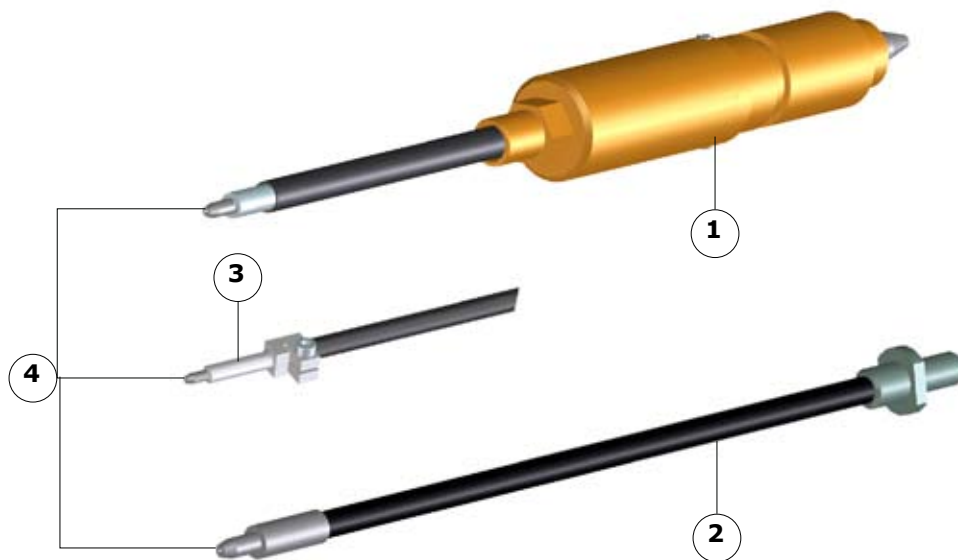

Fig.5.9 - Wire sheaths and small nozzles
- Standard wire sheath for exterior feeder (Fig.5.9 - 1)
- Wire sheath for built-in feeder (Fig.5.9 - 2)
Standard wire sheath (Fig.5.9 - 1)
Wire sheath for built-in feeder (Fig.5.9 - 2)
- Unscrew the nozzle from the wire sheath (Fig.5.9 - 4)
For large tube diameters, and depending on the stiffness of the wire, it is possible to install a nozzle extension (Fig.5.9 - 3) between the nozzle and the sheath in order to limit the free length of wire between the bath and the nozzle outlet.